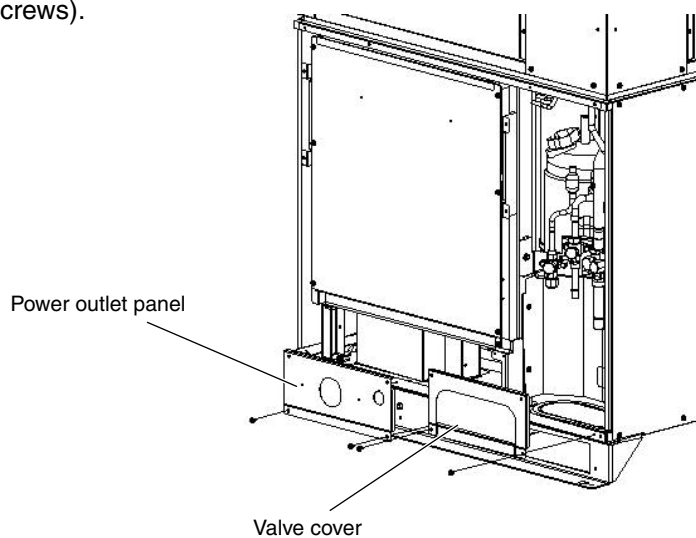

Fig. 2
### (2) Power outlet panel & valve cover removal (Fig. 2)